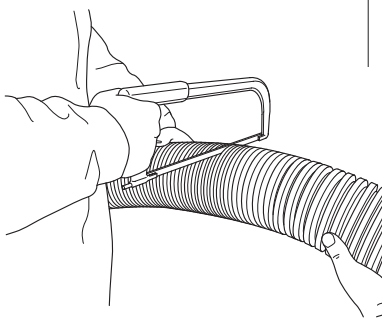

Fig. 25
14. Cut the excess concentric ducts to leave approximately 300 to 500mm protruding from the chimney and pass the square closure plate over the air duct (Figs. 25 & 26).